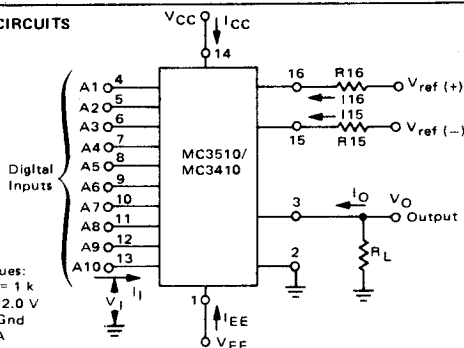

FIGURE 4 – RELATIVE ACCURACY TEST CIRCUIT
1.9 and 2.1 mA to produce a full scale output current of 3.996 mA. The relative accuracy test circuit is shown in Figure 4. The 14 bit D/A converter is calibrated for a full scale output of 3.996 mA. This is an optional step as the relative accuracy of the MC3410 is nearly constant between 3 mA and 5 mA full scale current. The MC3410 is calibrated at full scale with the 14-bit reference D/A by adjusting R16 until the error voltage goes to zero. The counter is activated and the error band may be displayed on an oscilloscope, detected by comparators, or stored on a peak detector.